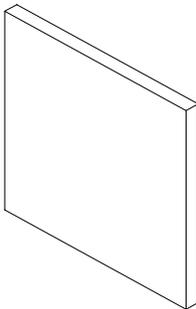

Figure 1-22. Non-Slip Neoprene Pad
i. **Non-Slip Neoprene Pad.** The 15" (38.1 cm) square x 1" (2.5 cm) thick non-slip neoprene pad shown in figure 1-22 is used on smooth concrete and metal surfaces as well as where water and/or lubricants are present. The pad also eliminates a potential sparking condition in an explosive atmosphere by eliminating metal-to-metal contact in certain strut placements.